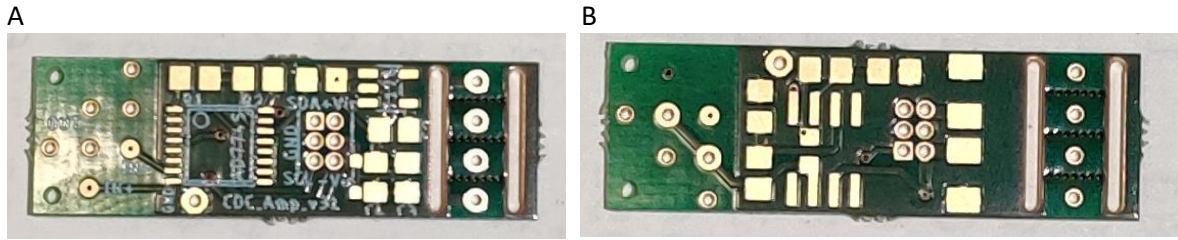

Figure 3: Images of the (A) top and (B) bottom of the entire detection head's PCB.
1. Detach of the 4 mini-PCBs on the right of Figure 3 the result is shown in Figure 4.